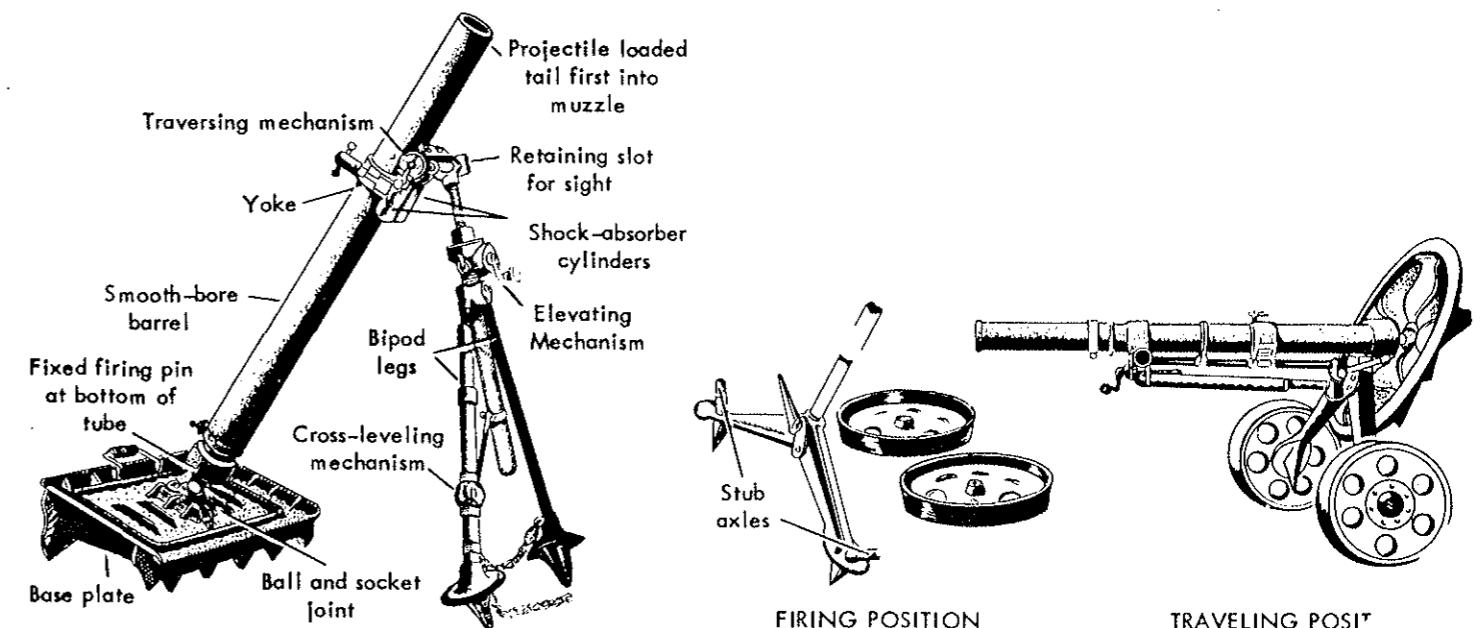
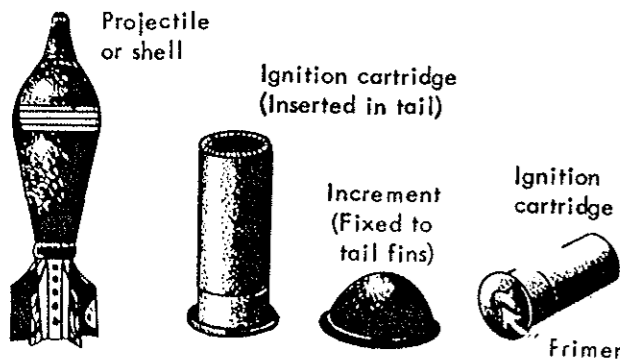
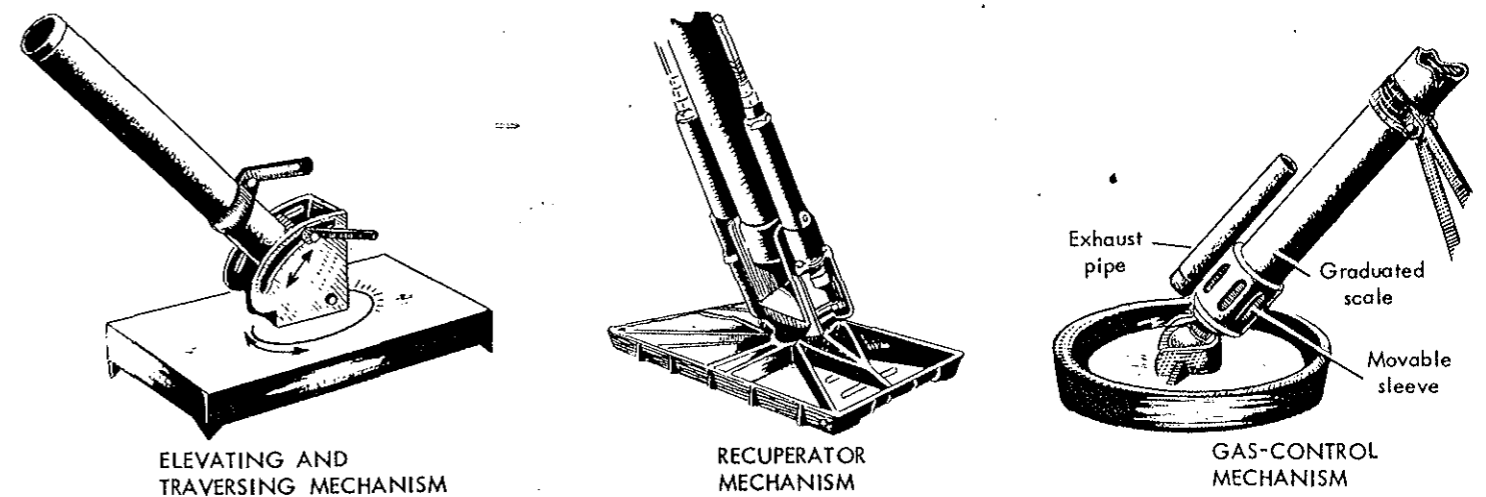

Figure 23.
Figure 24.
Figure 26.
Mortars may be of the well-known conventional type shown in figure 23, or of the spigot type as shown in figure 24.
Figure 23 illustrates a conventional 81-mm. (approximately 3-inch) mortar. The ignition cartridge (fig. 24) is inserted in the tail of the shell. For the longer ranges, additional propellant increments are fixed between the shell's fins. The shell is loaded tail first and, after dropping down the barrel, forces the percussion primer (fig. 24) in the base of the ignition cartridge upon the fixed firing pin in the base cap. Flash from the ignition cartridge passes through the holes in the boom to ignite the increments. The mortar can readily be dismantled into its three main components: barrel and base cap, base plate, and bipod mount.
7. What is the method of range adjustment and what is the muzzle velocity? Some mortars, chiefly those of smaller caliber, have been used in which differences of range are obtained not by altering the charge or the elevation of the barrel, but by allowing more or less gas to escape through valves in the breech. Weapons employing this system usually will be recognizable by the existence of an exhaust pipe or baffle plate and a graduated control mechanism, the latter at the breech (fig. 26).
8. What are the transporting arrangements? The components of some large mortars are too heavy to be conveniently man-handled. For such mortars a two-wheeled trailer or cart is often provided. In some cases, the mortar must be completely removed from this carriage before it can be fired (fig. 25). In other cases, however, the carriage may serve as the barrel mount in action in a manner reminiscent of a towed artillery weapon. Sometimes wheels are fitted as shown in figure 23.
11. What is the form of the base cap? Does it mate directly with the base plate by means of a conventional ball joint (fig. 23), or are there intermediate components? Is there any buffer and recuperator mechanism between base cap and base plate (fig. 26)?